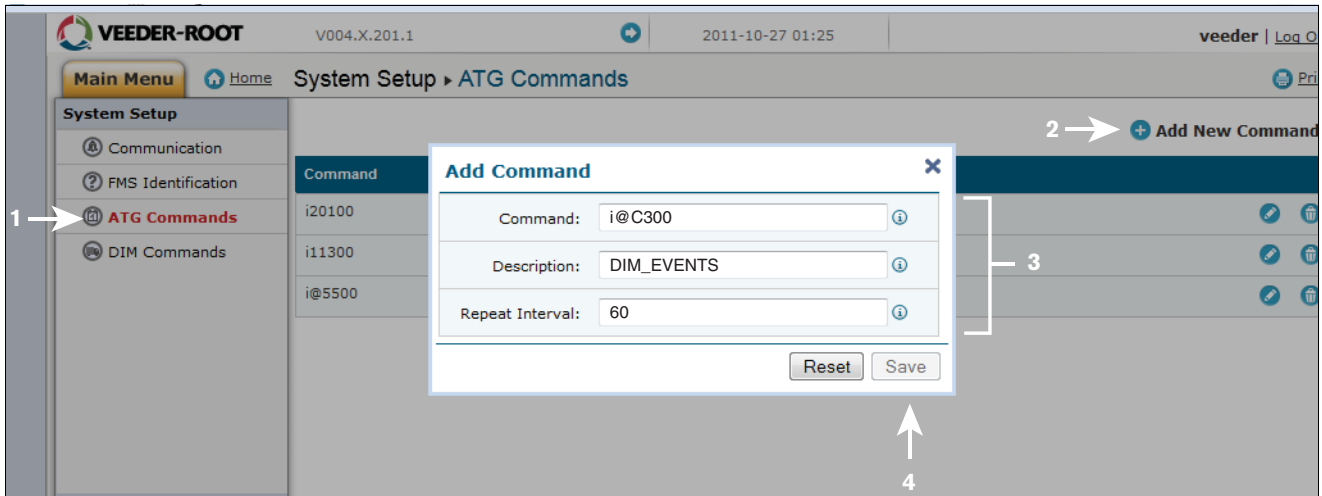

Figure B-6. Entering ATG Command
9. Go to the "DLSetup" application by clicking on white arrow in blue circle top center of screen (see Figure B-6), and under "System Setup", click on "ATG Commands (1 in Figure B-6)". Then click on the "+ Add New Command" text at top right of screen (2 in figure). When the Add Command dialog box appears enter the command "i@C300", add the Description "DIM_EVENTS", set the Repeat Interval to "60" (3 in figure) and click Save (4 in figure).